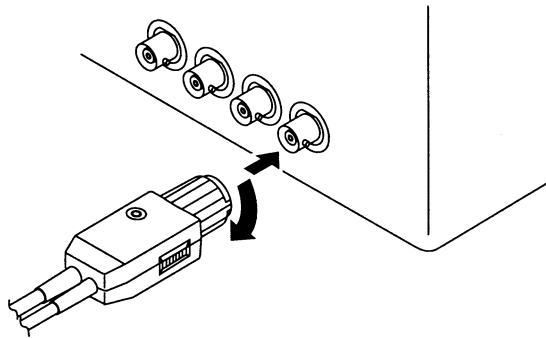

Figure 3 Connecting the Probe to the Oscilloscope
- 6 Connect the probe’s output connector to the oscilloscope’s input connector as shown in **Figure 3** on page 11. Turn the collar until it clicks, and check that it is locked securely.